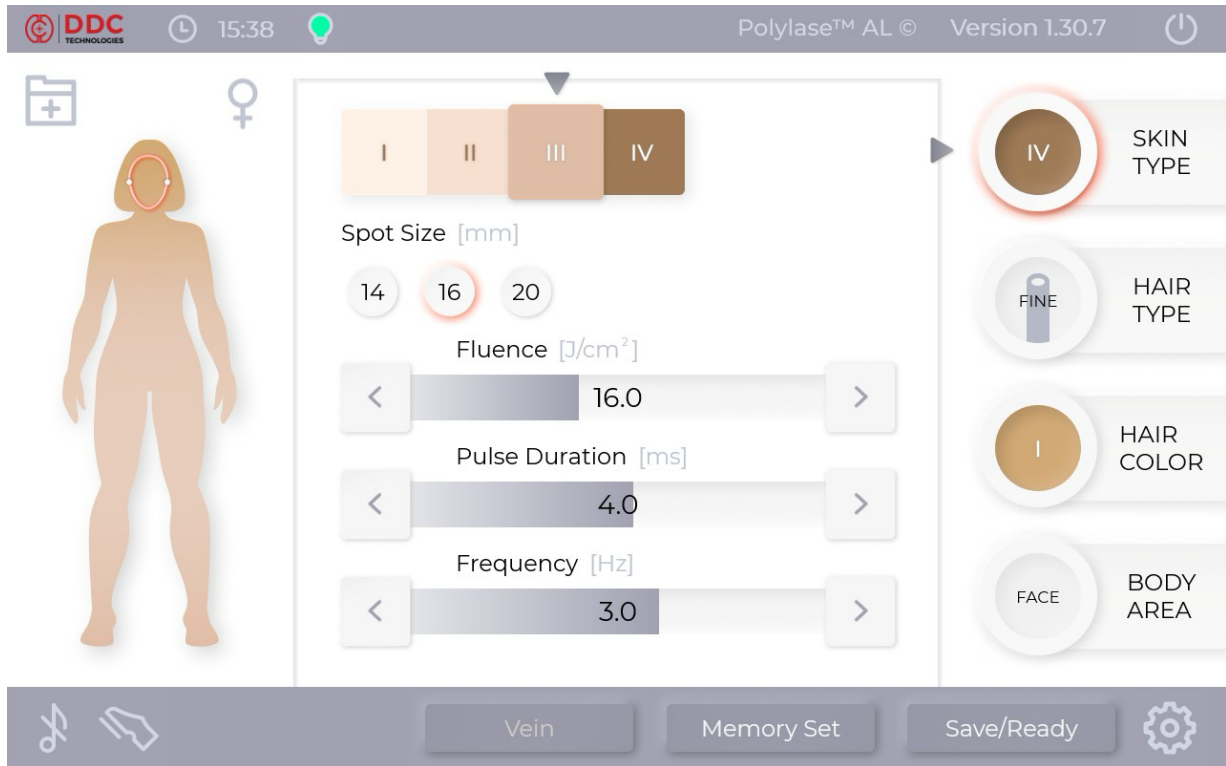

Figure 5-4. Edit Mode Screen
At this moment the cooling system pump will start and laser lamps will ignite. After the system has completed the start up cycle, laser will stay in *Edit* mode (see Fig. 5-4). In this mode laser operating parameters can be modified by the operator and the laser energy cannot be emitted.
1. Press SKIN TYPE button and then select the Skin Type III option from the horizontal row (see Fig. 5-4)
Press **Save/Ready** button to switch the laser from *Edit* to *Ready* mode. The screen will change to *Ready* mode. The red sign on the LCD display will read: “LASER IS READY”. In *Ready* mode the laser is armed and ready to fire. The intra-cavity shutter is open and the laser power can be released by depressing a footswitch or a trigger button on the handpiece. The use of the footswitch or the handpiece trigger button can be selected by the  button (see Fig. 5-4, 5-6). Unless the footswitch or the handpiece trigger button is depressed, it is not possible to fire the laser in this mode. It is not possible to change parameters while in *Ready* mode.
The POLYLASE AL software allows the handpiece to operate in *Vein Mode*, i.e. with the optional insert objective. The optional VEIN OBJECTIVE allows to operate the handpiece with 3 small spot sizes (2, 3 and 4 mm), which allow to generate high fluences during certain procedures. This objective must be installed in the handpiece output aperture instead of the Protective Window Holder prior to entering the *Vein Mode*. When this optional objective is installed, the user has to switch the laser into *Vein Mode*. The handpiece mode selection button (**Vein** or **Hair**) is located on the footer toolbar on the *Edit* screen (see Fig. 5-4 and 5-8). The laser is always in **Hair** mode by default after system start-up, therefore, normally this button has the name **Vein** displayed on it. In order to switch to *Vein Mode*, press and hold **Vein** button for at least 3 sec. The button will change its name to **Hair** and the laser software will switch to *Vein Mode* (see Fig. 5-8). The spot size selection options will change to 2, 3 and 4 mm and all displayed Fluence values will be re-calculated reflecting small spot size selected. In order to switch the laser back to **Hair** mode, press and hold **Hair** button for at least 3 sec.